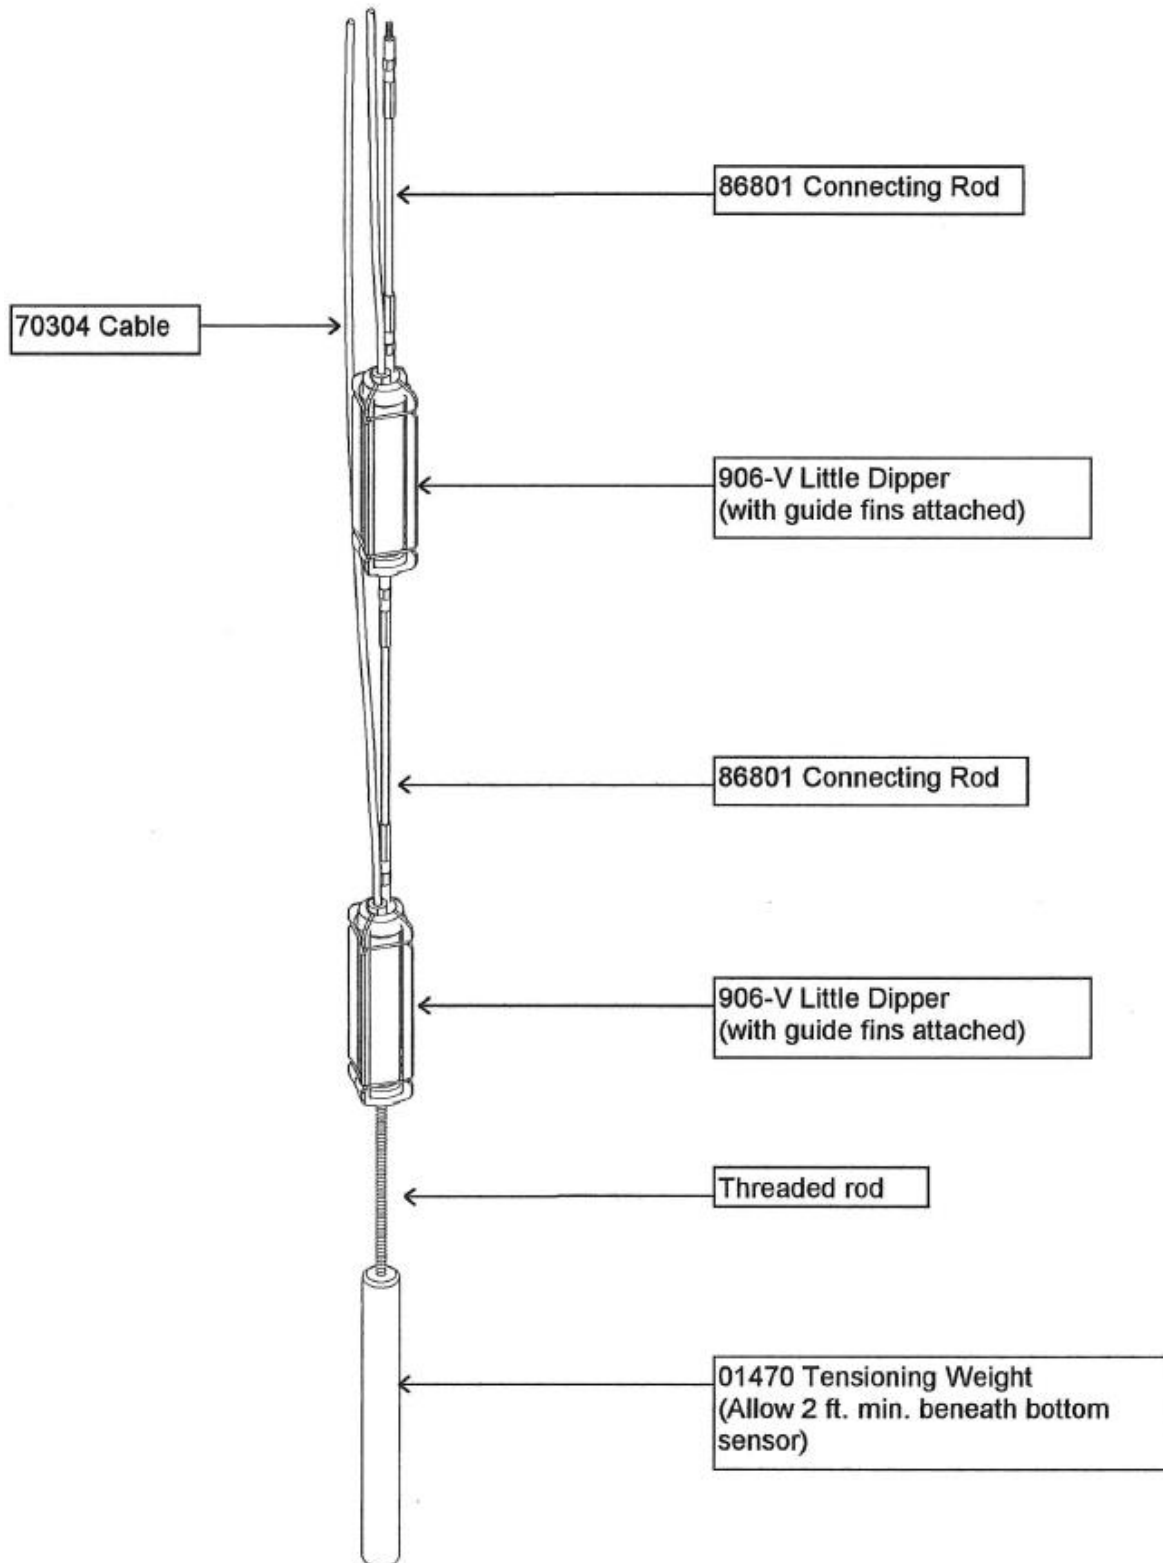
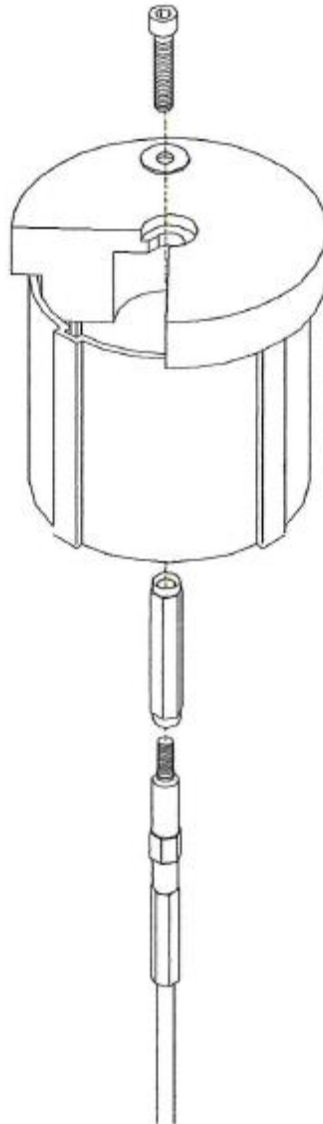

Figure 5: Vertical placement for point measurement in standard inclinometer casing
Figure 7: Casing hanger
A vertical installation of the Little Dipper in standard inclinometer casing starts with the tensioning weight. This forces the string to "stretch-out" in the casing, removing the possibility that long-term adjustments will produce erroneous or false readings. A horizontal installation does not require a weight. The sensors are placed in the hole with fiberglass rods separating them (Figure 5). The fiberglass rods have threaded ends which screw into the ends of the Little Dipper In-Place Inclinometers (Figure 5). Care must be taken to align the axis of each Little Dipper as it is lowered into the hole. Cables from the lower clinometers are fed between the casing wall and the bodies of the upper clinometers. The string of instruments is suspended from a hanger at the top of the casing (Figure 7).
8. Hang the assembly from the hanger by placing the hex coupler (01471), washer, and cap screw on the threaded end of the uppermost connection rod. The wires from each sensor pass through the wedge-sized opening in the hanger (Figure 7).
9. Hang the assembly from the hanger by placing the hex coupler, washer, and cap screw on the threaded end of the uppermost connecting rod. The wires from each sensor pass through the wedge-sized opening in the hanger (Figure 7).